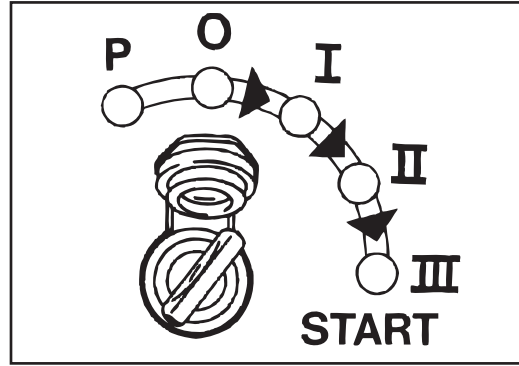

Fig. 39
Five [5] position switch is used to start engine and turn electrical systems off. (Fig 39)
- Turn the ignition key to position “III” (Fig. 39), the starter will crank the engine.